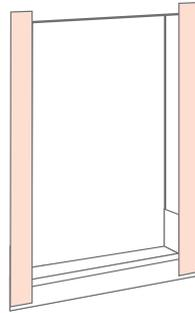

fig. 9
- a. Cut two side pieces of weather barrier tape to length, measure 1/2" up from the bottom of the sill flashing to 1" above the rough opening head. Apply the side self-adhering window flashing tape to the exterior. The window flashing tape on the jambs and the head must be flush with the edge of the rough opening. (**fig. 9**)